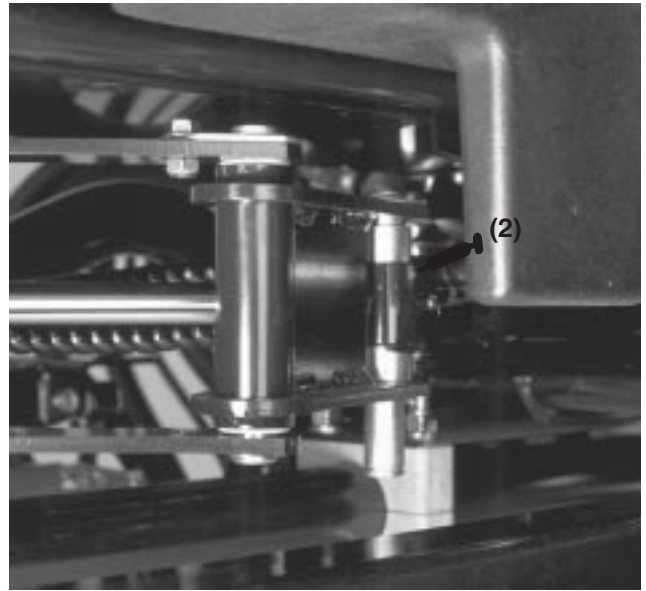
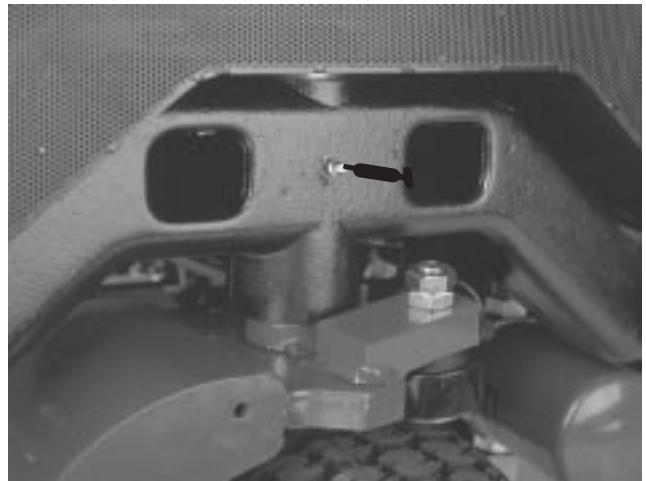
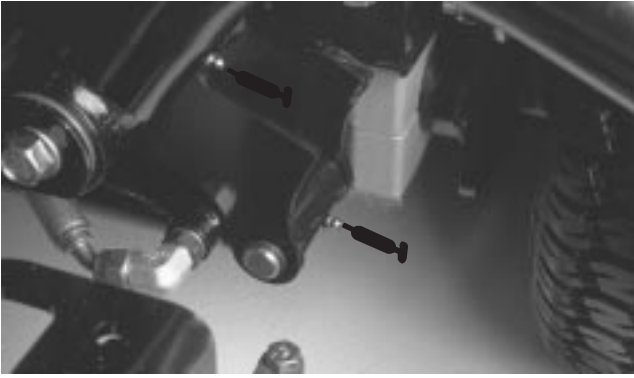
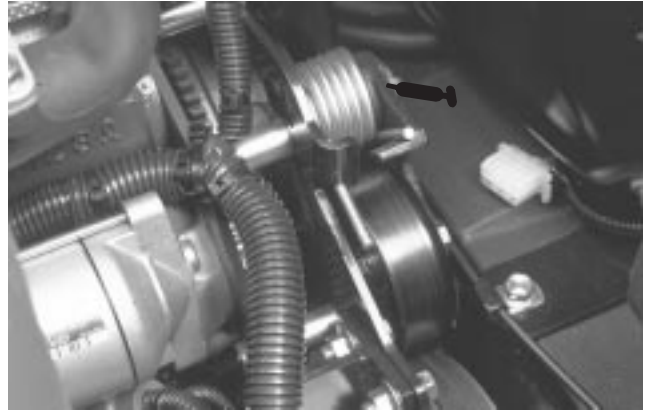

Figure 46
Figure 47
Figure 49
Figure 53
The traction unit bearings and bushings that must be lubricated are: Rear cutting unit pivot (Fig. 44), Front cutting unit pivot (Fig. 45), SideWinder cylinder ends (2) (Model 03201 only) (Fig. 46), Steering pivot (Fig. 47), Rear lift arm pivot and lift cylinder (2) (Fig. 48), Left front lift arm pivot and lift cylinder (2) (Fig. 49), Right front lift arm pivot and lift cylinder (2) (Fig. 50), Neutral adjust mechanism (Fig. 51), Mow/Transport slide (Fig. 52), Belt tension pivot (Fig. 53) Steering cylinder (Fig. 54).